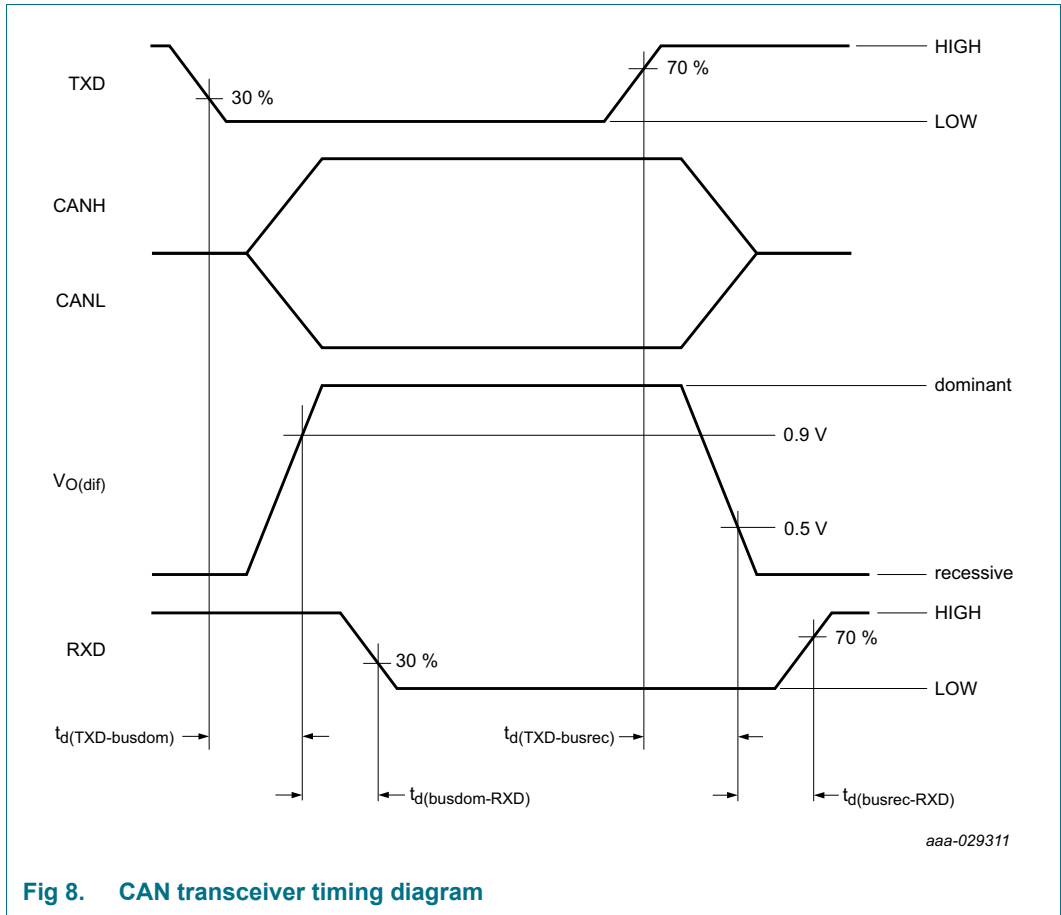
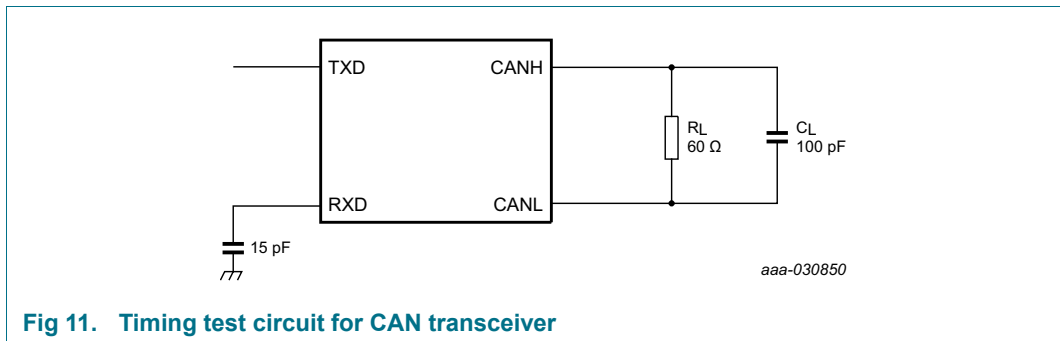

Fig 8. CAN transceiver timing diagram
Fig 11. Timing test circuit for CAN transceiver
- [2] See Figure 8 and Figure 11.
- [3] See Figure 9 and Figure 11.